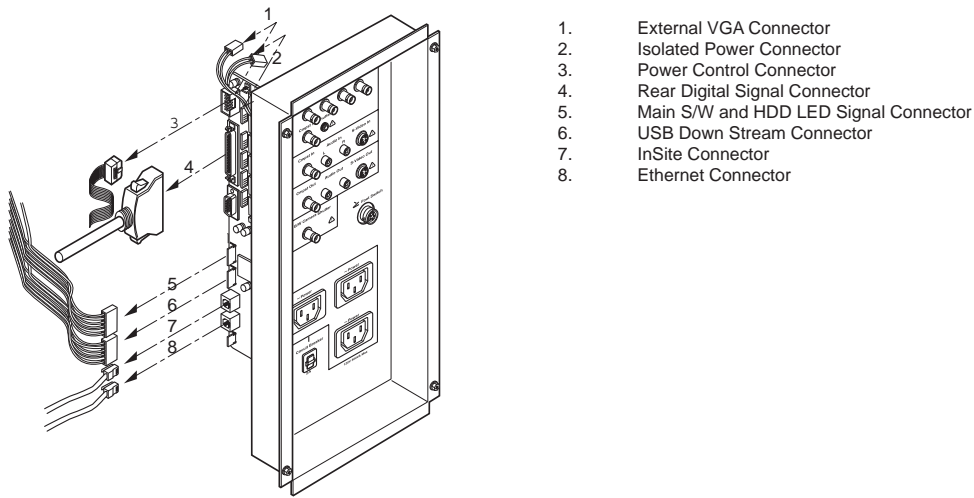

Figure 8-69 Disconnecting 8 Connectors
7.) Disconnect 8 connectors (1-8) from the left side of the Panel. Refer to Figure 8-69.